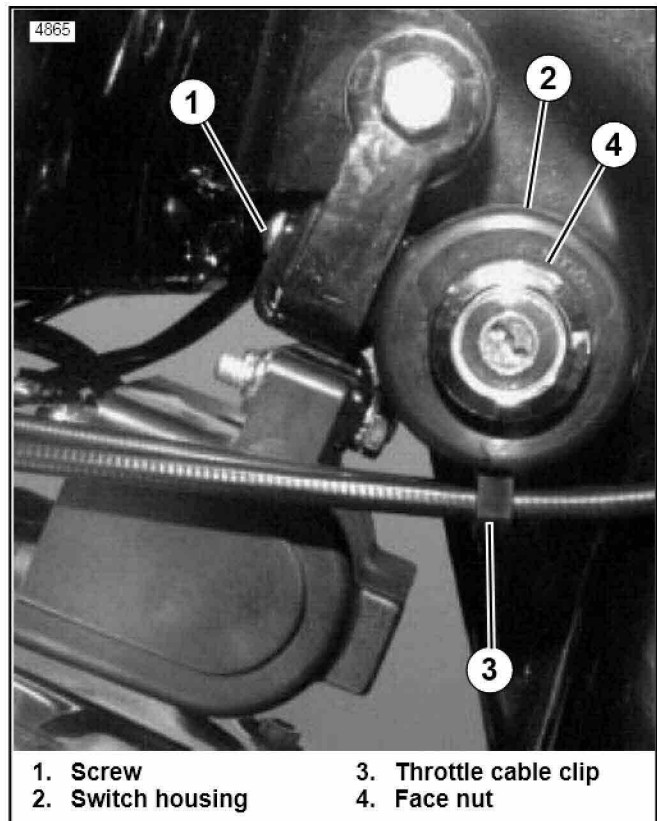

Figure 3. Ignition Switch Relocated
11. See Figure 3. Install plastic washer (if present) and face nut (4) and tighten securely.
13. See Figure 3. Install coil on new coil bracket from kit with tab for mounting ignition switch housing on right side.
14. Loosen terminal screws on ignition switch and place ignition switch housing on coil bracket. See Figure 3. Install screw (1) to secure housing (2) to coil bracket.
13. See Figure 3. Place throttle cables in throttle cable clip (3).